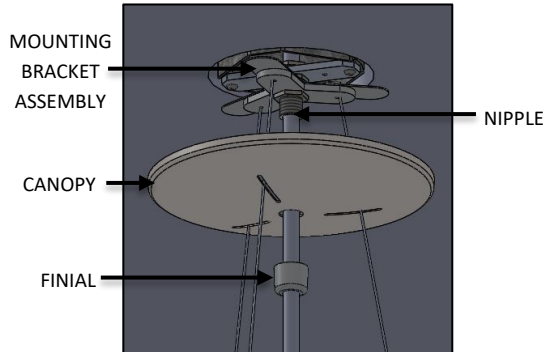

FIG. 24 – FINIAL INSTALLATION
10. Raise CANOPY and secure to ceiling by threading the FINIAL to the NIPPLE (available in MOUNTING BRACKET ASSEMBLY) as shown below in FIG. 24.